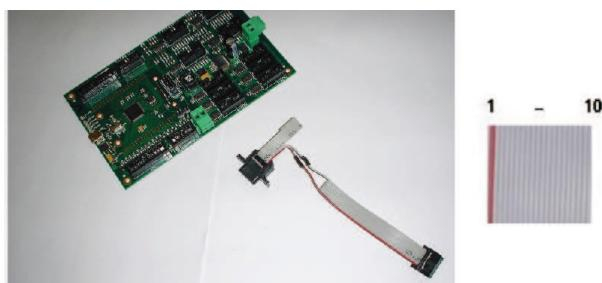

Figure 11.5: Attach ribbon wire 1 and 2 (SUB-D side, left on this figure) to ribbon wire 1 and 10 (ribbon connector side, right on this figure)
- From the SUB D connector piece, strip the cable which is attached to pin 1 and 2 of the ribbon cable (this is the RED cable and the cable adjacent to the RED cable; see Figure 11.5)